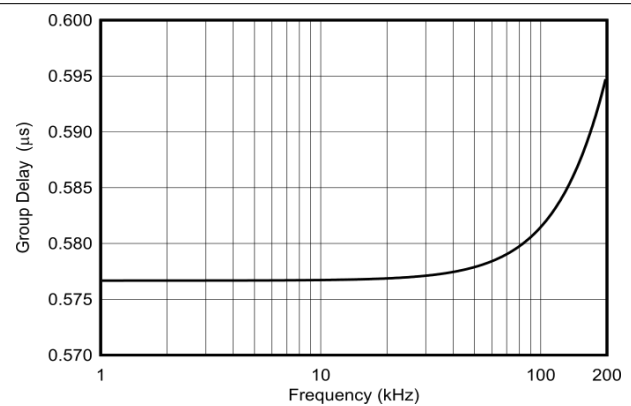

**Figure 9-3. Antialias Filter Group Delay**
**Figure 9-3** shows the analog filter group delay. The 0.575- $\mu$ s group delay is small in comparison to the 85- $\mu$ s group delay of the ADC digital filter ( $34 / f_{DATA}$ ). The analog filter group delay linearity is 0.017  $\mu$ s, peaking at the edge of the 165-kHz pass band.